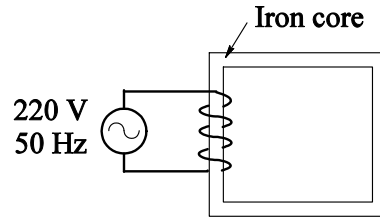

Figure 4
2. When a voltage source with 220 V (rms) with frequency of 50 Hz is applied to an iron core inductor shown in Figure 4, the eddy current loss is 25 W out of the total iron loss of 60 W. What will be the total iron loss if the source voltage magnitude is kept fixed but the frequency is doubled? Assume that Steinmetz's index for iron core is equal to 2.